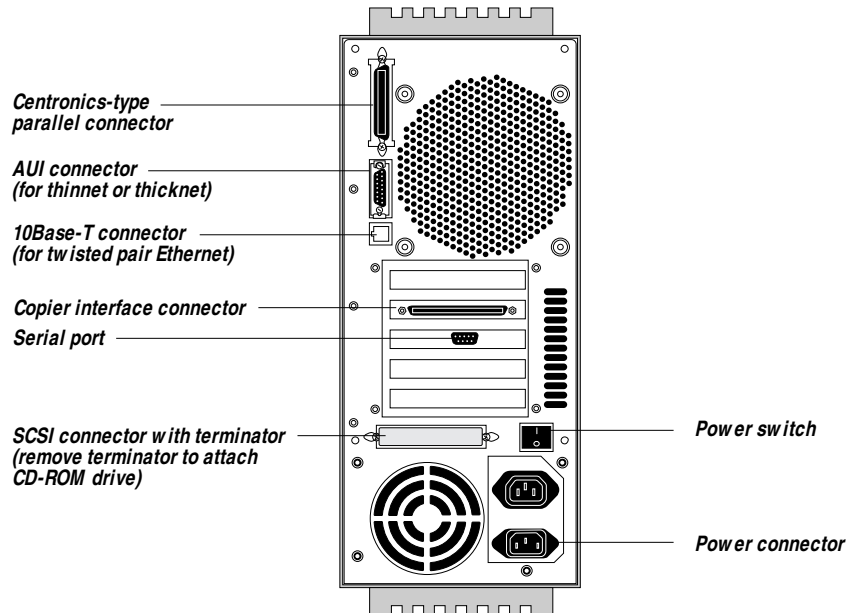

Figure 6-2 Back panel of Fiery XJ-R/R2 showing connectors
- Check that all interface cables to the system are plugged into the proper connectors on the back panel of the chassis (see Figure 6-2).